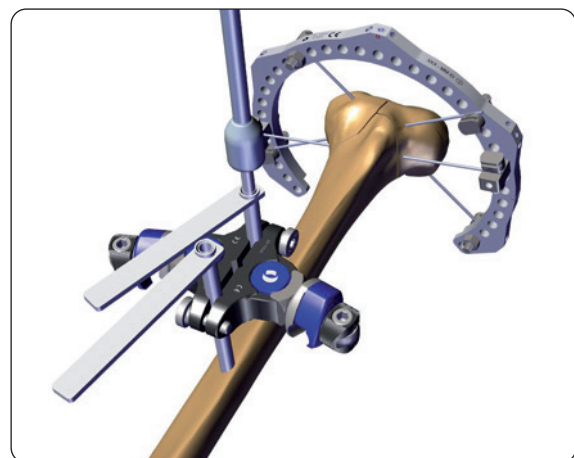

Fig. 9
- Manually insert the bone screw with the T-Wrench into one of the outer holes of the clamp (**Fig. 9**)